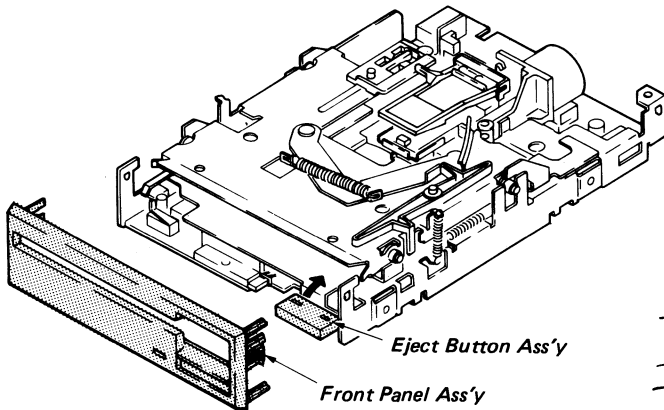

Fig. 4-1 Front Panel Ass'y Replacement
- Push slightly the plastic hinge located in the center on either of right or left sides, and pull slowly its side toward you. (Refer to Fig. 4-1) The Front Panel Ass'y is taken away.
- Take out the Eject Button Ass'y while twisting it to the right side or the left side alternately, as shown in the Fig 4-1.
- Install the front panel ass'y. (Refer to Fig. 4-1)